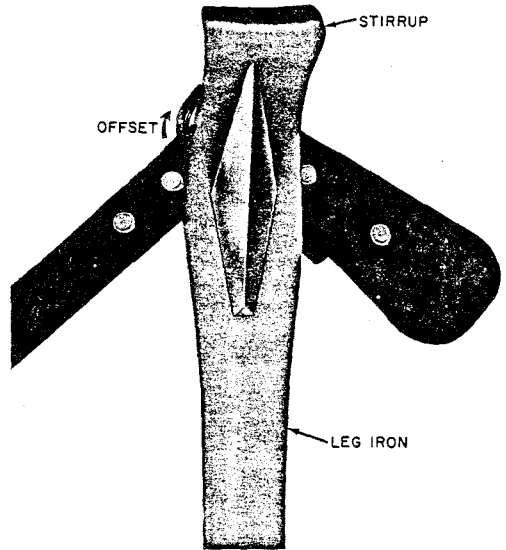

Fig. 2—Stirrup Offset "Right"
3.05 F climbers have offset stirrups; therefore, they are made for the left or right foot and are marked "L" or "R" just below the ring loop at the end of the stirrup. Some older climbers may not have been marked. Climbers can be identified as left or right by holding the climber with the gaff toward you and pointing up and noting the direction the stirrup is offset. If the offset is to the right as shown in Fig. 2, it is a right climber; conversely, if the offset is to the left, it is a left climber.